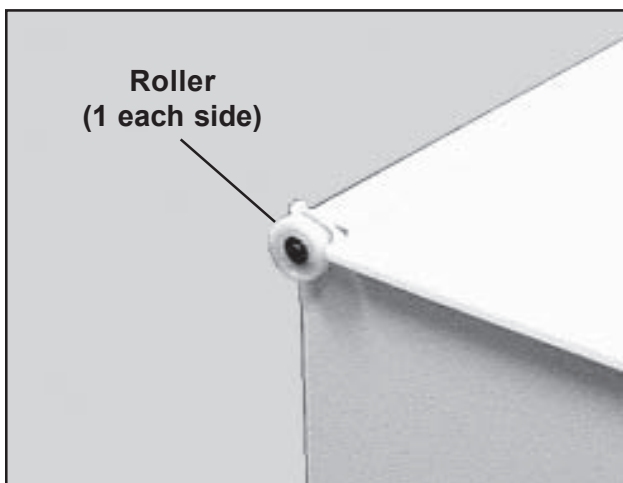
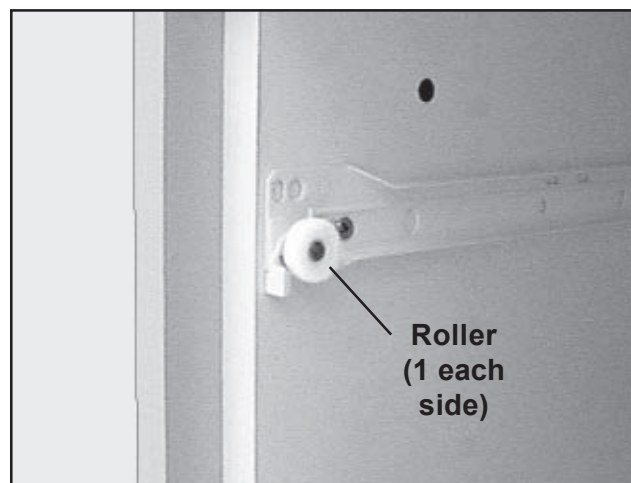

Figure 22. Roller on Rear of Drawer.
Figure 23. Roller on Cabinet Wall
3. To replace the drawer, slide the rollers at the rear of the drawer (Figure 22) over the rollers on the cabinet wall (Figure 23), then gently push the drawer in.